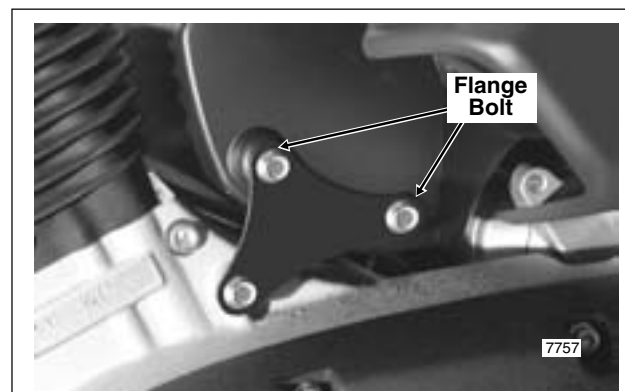

Figure 1-36. Remove Air Box From Bracket
8. Moving to left side of vehicle, remove two flange bolts to release side of air box from triangular shaped bracket. Do not remove bottom bolt to crankcase. See Figure 1-36.